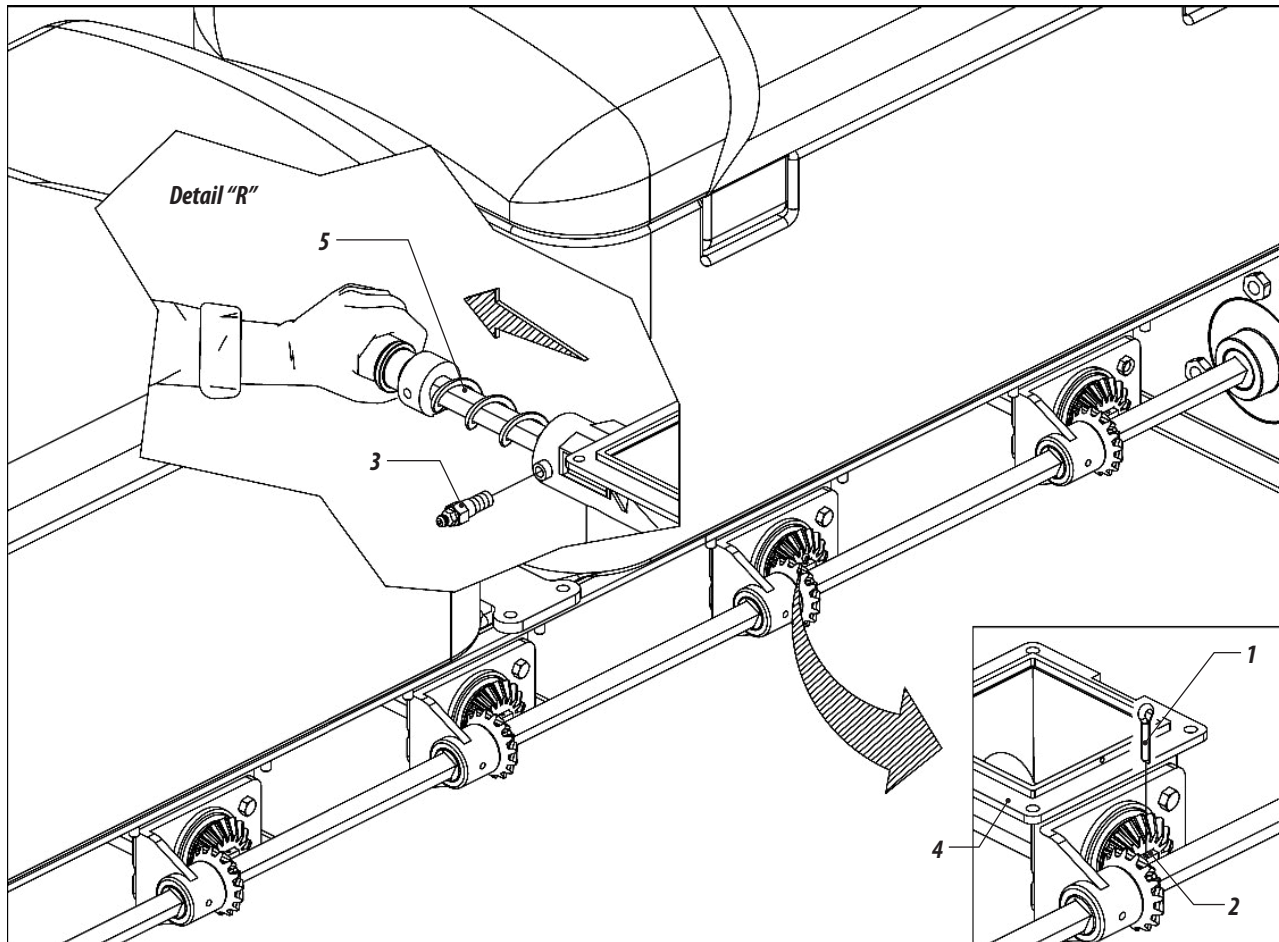

Figure 49
01 - Remove the cotter pin (1) from the shaft (2) and the screw (3) from the distributor cannon (4). Then, pull the shaft (5) back, as shown in detail "T", FIGURE 49.